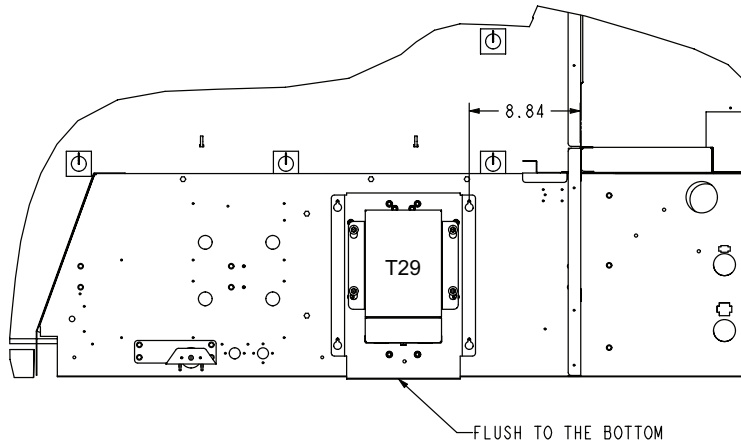

FIGURE 16
- iii. See FIGURE 16 for 180-240 units.